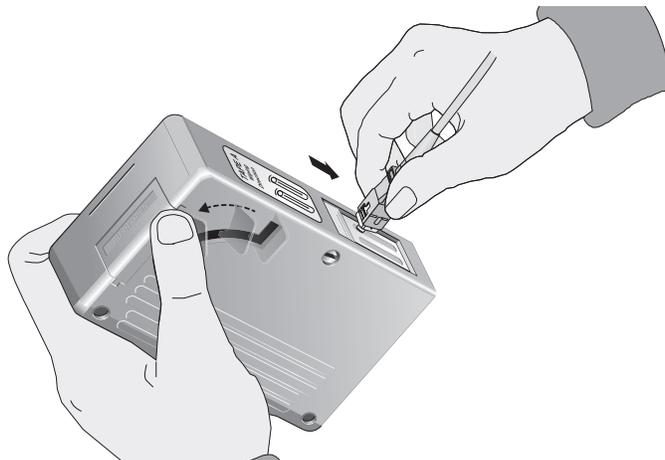

Figure 30. Rubbing the Ferrule Tip on the Cleaning Surface
1. With one hand, hold the cartridge cleaner and push the lever on the cleaning cartridge in the direction of the arrow to expose the cleaning surface, as shown in Figure 30.
2. Place the ferrule tip on the exposed cleaning surface and rub the ferrule in a downward direction, as shown in Figure 30.
1. Insert the swab into the adapter as shown in Figure 30 and rub the ferrule tip with the swab.